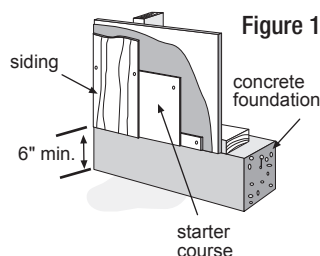

Figure 1
- When installing James Hardie products all clearance details in figs. 1,2,3,4,5,6&7 must be followed.